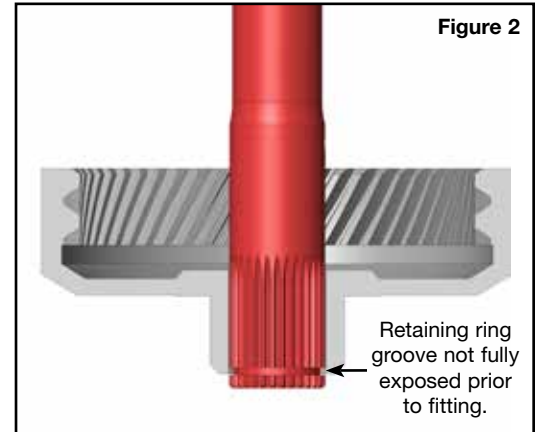

Figure 2
- When Sonnax extreme duty main shaft is initially installed in the rear internal gear, it is normal that the retaining ring groove on the shaft will not protrude far enough to allow retaining ring installation (**Figure 2**). As a consequence, Sonnax extreme duty main shaft must be fitted to the rear internal gear.